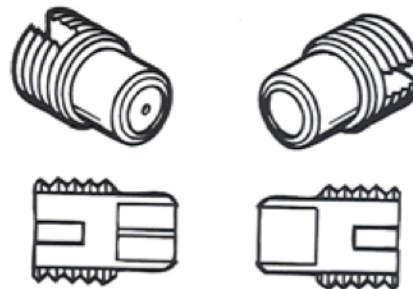
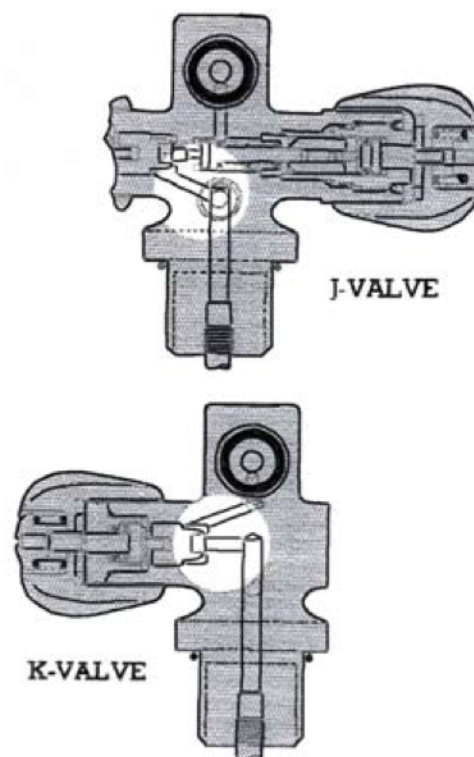

Figure 2
Figure 3
CAUTION: The seats (11) required by the K-valve, J-valve, Z-valve and the Twin Manifold are all different. Failure to install the correct seat in each valve will lead to malfunction when in use. The K-valve seat shown in Figure 2 has a solid nylon surface, whereas the J-valve seat has a pressure relief through-hole in the nylon surface. This through-hole relieves any air pressure which may build up behind the J-valve seat. This can be caused by air hitting the sealing surface on an angle (Figure 3). Air can travel around the seat. If the seat was not designed with a pressure-relief through-hole, the seat could rupture, close off or restrict air flow to the first stage regulator. The K-valve seat does not require an air-pressure relief through-hole because air hits the sealing surface directly. The part numbers for the different seats are as follows: